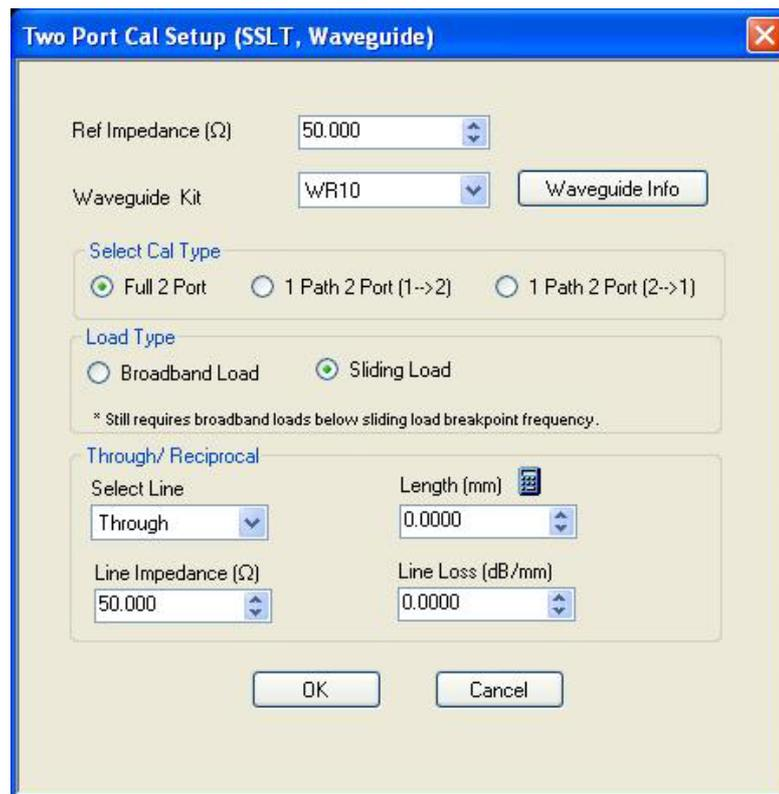

Figure 3-1. Two Port Cal Setup window
20. In the Two Port Cal Setup window (see Figure 3-1), select: